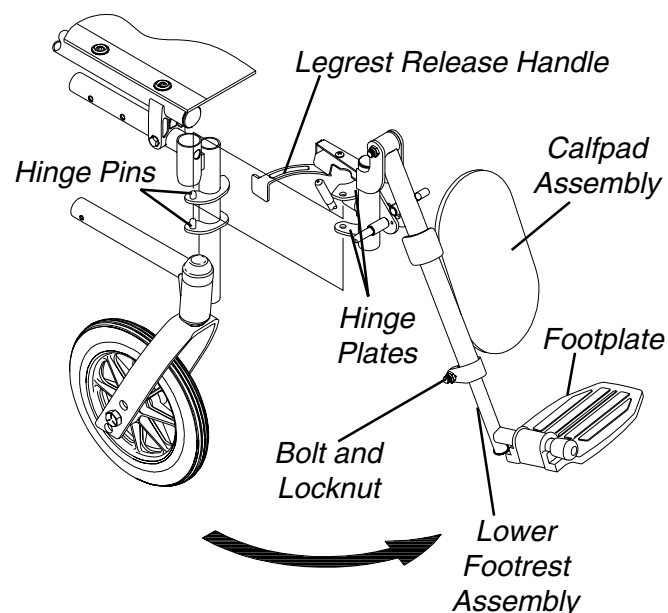

FIGURE 4 - ELEVATING LEGREST INSTALLATION
## ELEVATING LEGREST ASSEMBLY INSTALLATION (FIGURE 4)
1. Place legrest assembly on the outside of the wheelchair and install the hinge plates onto the hinge pins on wheelchair frame (FIGURE 4).
2. Rotate legrest assembly toward the inside of the wheelchair until it locks in place (FIGURE 4).